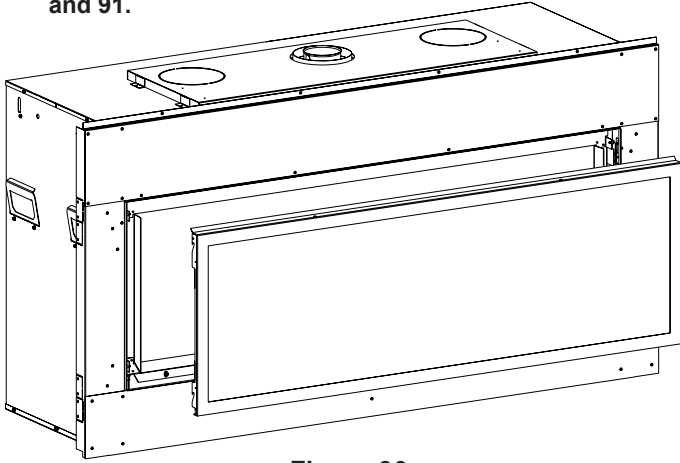

Figure 90
2. Remove 3 bolts at the bottom edge of the glass frame using a 9/16" socket. Tilt the bottom edge of the Glass Frame towards you and pull upwards to remove it from the unit. **See Figures 90 and 91.**